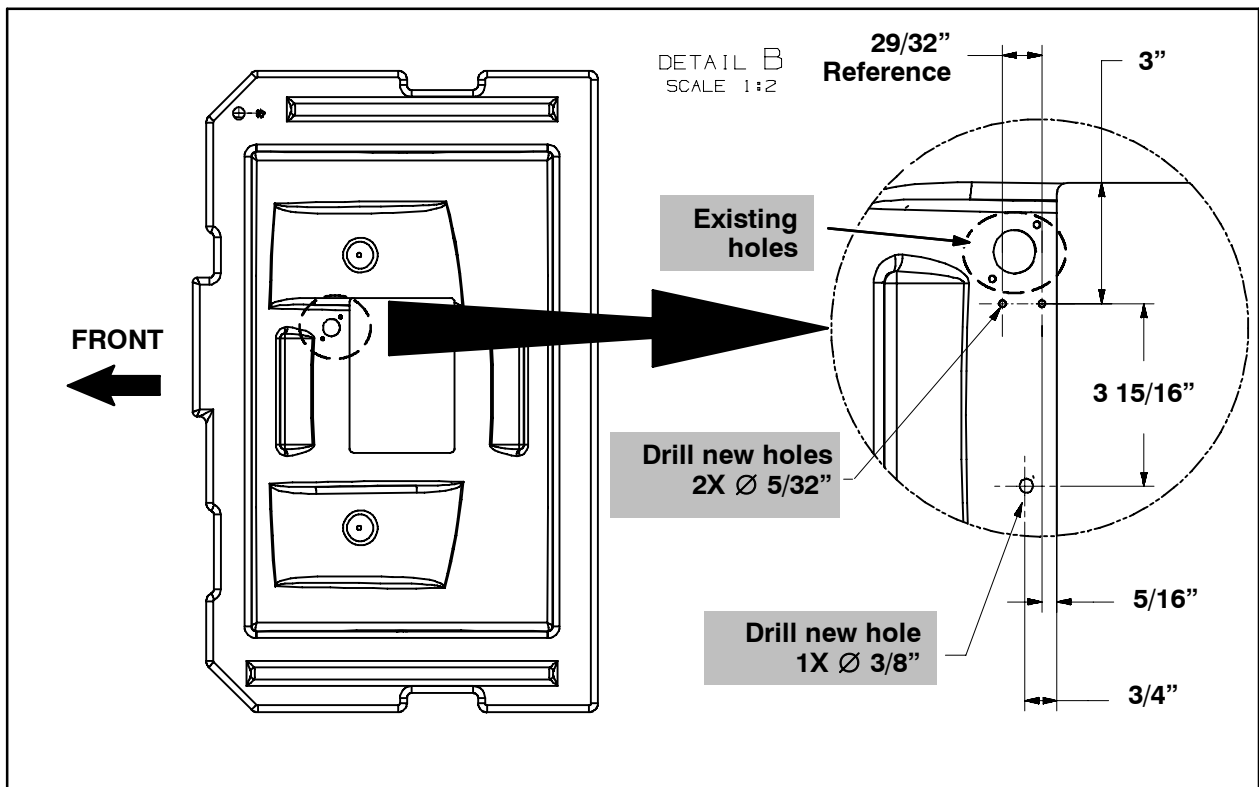

FIG. 3
NOTE: Disregard Step 2 and Step 3 if all holes shown in Fig. 3 are already drilled into the hopper filter cover.
2. Drill one 5/32" hole into the hopper filter cover, place the Thermo-Sentry sensor (1) onto the hopper filter cover, and use the sensor as a template to drill the other 5/32" hole. Refer to Fig. 3.
3. Drill a 3/8" hole into the hopper filter cover. Refer to Fig. 3.